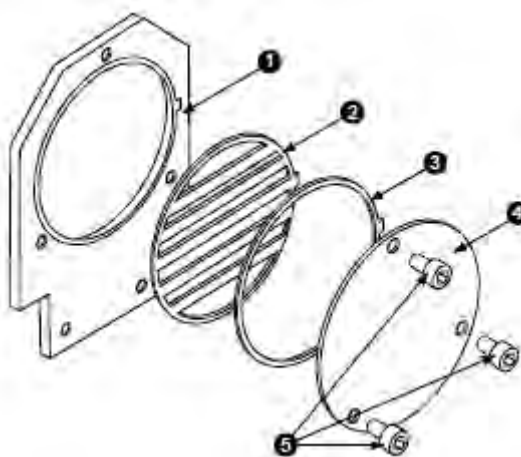

Fig. F-1
- 1) Remove the Zero Reflector and disassemble as shown in Figure F-1. Find the aperture and grid identifiers etched on the tabs and identify the relevant sequence number.